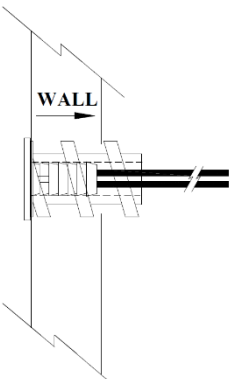

Figure 2
Mounting in sheetrock is done through a 1/2" hole using regular hand tools as shown in Figure 2. Mounting into marble or rock can be done directly in a 1/4" hole without the threaded insert.
First drill a 5/8" hole in the drywall. Next insert the button sensor (2) wires through the top of 1" or 2" Delrin spacer. Now thread the 1" or 2" Delrin spacer onto the back of the button sensor. Now make all of the wire connections using either crimp on connectors or wire nuts. A small piece of foam or insulation may be inserted into the bottom of the 1" or 2" Delrin spacer to better insulate the sensor if necessary. Next insert the button sensor assembly into the wall until it is flush to the wall as shown in Figure 2. You may need to gently tap the button sensor assembly with a hammer for it to go into the drywall.